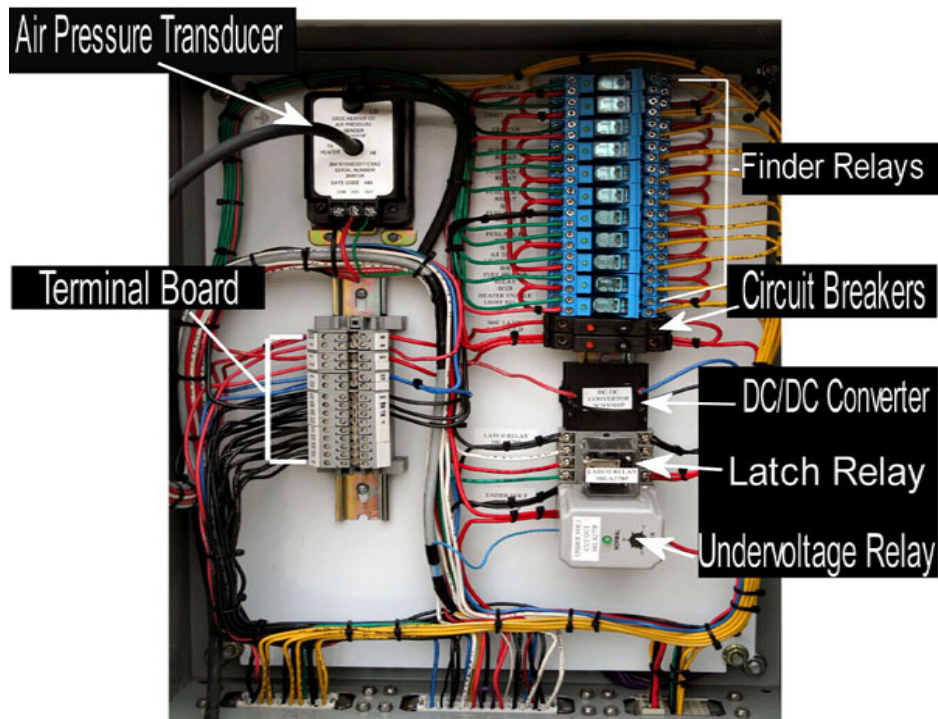

Figure 2-29. Heater components.
The heater control box houses the heater ECM, relays, display screen, and lights. On the front side of the panel are four lights, the ECM function keys with display screen, and two switches. The four heater lights supply status information. The function keys and the screen provide a means to interface with the ECM. The first switch is the E-stop button. The E-stop button will only shut down the heater system, not the auxiliary engine. The second switch is the power switch. **Do not** use the power switch as the primary method to activate the heater system; use the heater switch in the **truck control panel**. Figure 2-29 illustrates the location of components in the heater control box; refer to this figure as we cover the latch relay, undervoltage relay, and the direct current (DC)/DC converter.